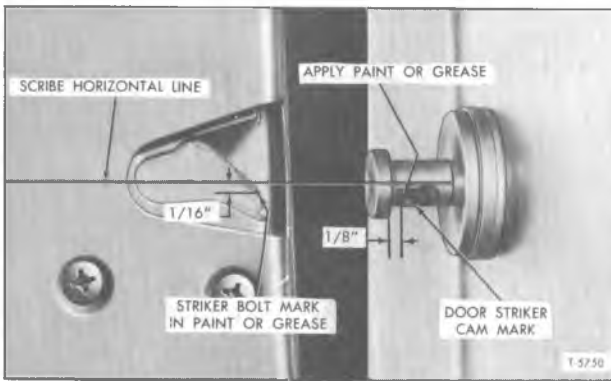

Figure 10—Striker Bolt Alignment
STRIKER BOLT ADJUSTMENT (Fig. 10)
1. To check striker bolt for proper fore and aft adjustment, smear grease or paint to contact side of bolt as shown in figure 10.
3. Measure distance between head of bolt and the cam impression in grease. Distance should measure 1/8-inch as shown in right view of figure 10. This dimension is necessary to assure that the head of striker bolt will ride at center of nylon shoe which is located just in back of the lock cam.
1. Mark a horizontal line through center of "V" slot and on door lock cam as shown in left view of figure 10.